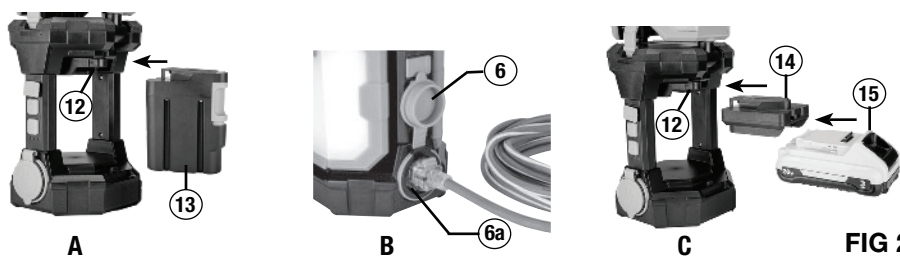

FIG 2
3-WAY POWER (FIG 2)
A. Use a PowerSmith Voyager PVLAB121 12V battery pack to operate the lantern. Refer to FIG 2-A for an illustration on installing the PVLAB121 battery pack onto the lantern.
B. Power the lantern with 120V AC power using a standard extension cord (sold separately) and the built-in AC input socket (6a). See FIG 2-B.
C. The lantern can be powered by an 18/20V power tool battery pack from DeWalt®, Makita®, Milwaukee®, Makita®, or Bosch® by using a DC adaptor (sold separately). See FIG 2-C for the guidance on installing the DC adaptor and connecting the power tool battery to the lantern.
The built-in AC input socket (6a-FIG 2) functions as the charging port for PowerSmith Voyager PVLAB121 battery pack.